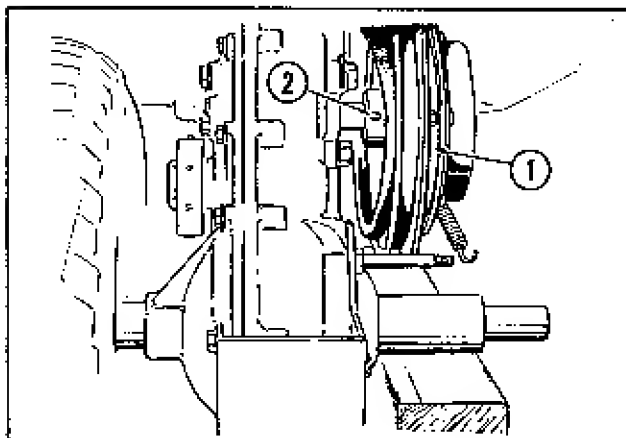
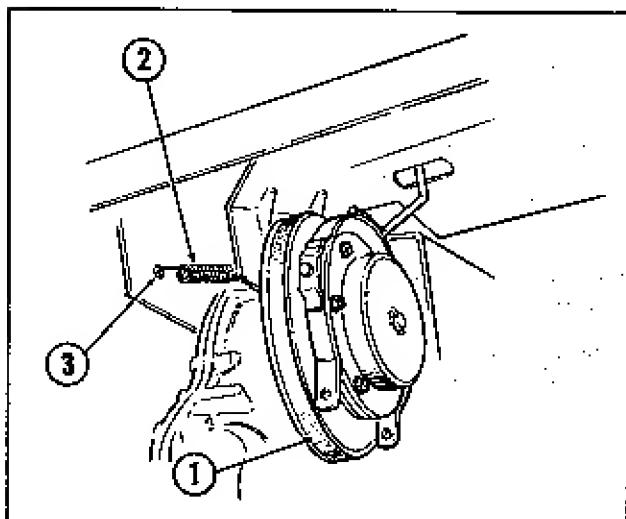

Figure 2
Figure 3
3. Place the two-speed pulley assembly #1, Fig. 2, on the transmission pulley shaft, and lock in place with the set-screw #2, Fig. 2, in the pulley hub. Be sure to maintain a clearance of at least  $1/8''$  between the pulley hub and the transmission. Notice that the hub of the pulley faces toward the transmission. Place the V-belt over the two-speed pulley #1, Fig. 3, and replace the idler tension spring #2, Fig. 3, in the hole #3, Fig. 3 as shown to engage the idler pulley with the transmission drive belt.